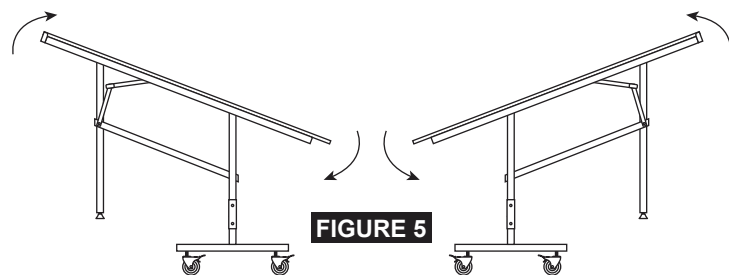

FIGURE 5
2. Fold each halves table as shown **FIGURE 5**.